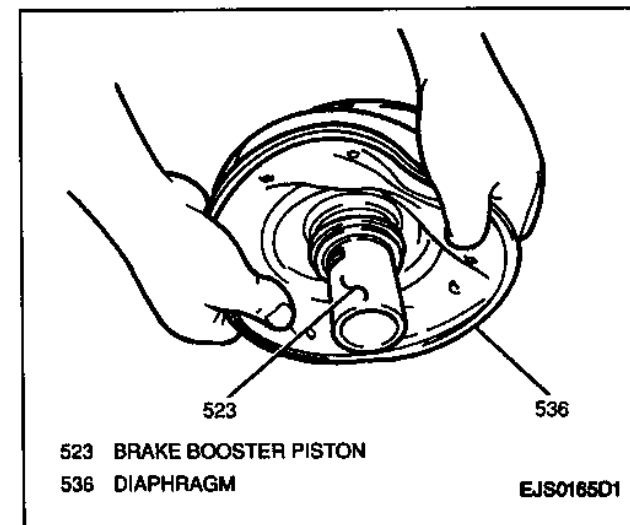

Figure 16—Removing Diaphragm From Brake Booster Piston
15. Diaphragm from brake booster piston (Figure 16).